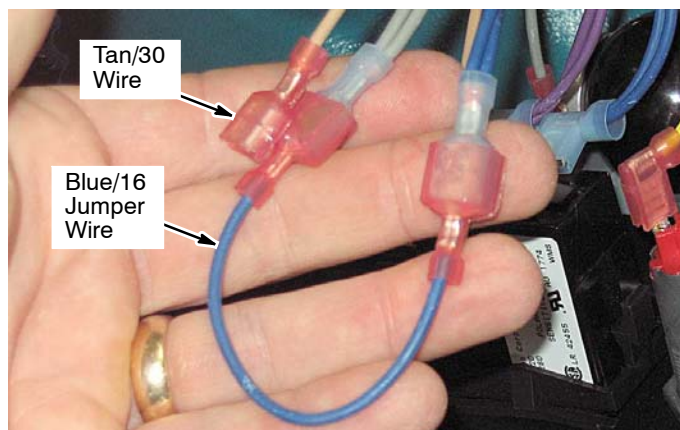

Fig. 32
10. Inside the lower control panel, locate the Blue/16 jumper wire and the Tan/30 wire with open terminal. Disconnect the Blue/16 jumper wire from wires 8/8A Gray and 6/16 Blue (Figure 32). Discard jumper wire.